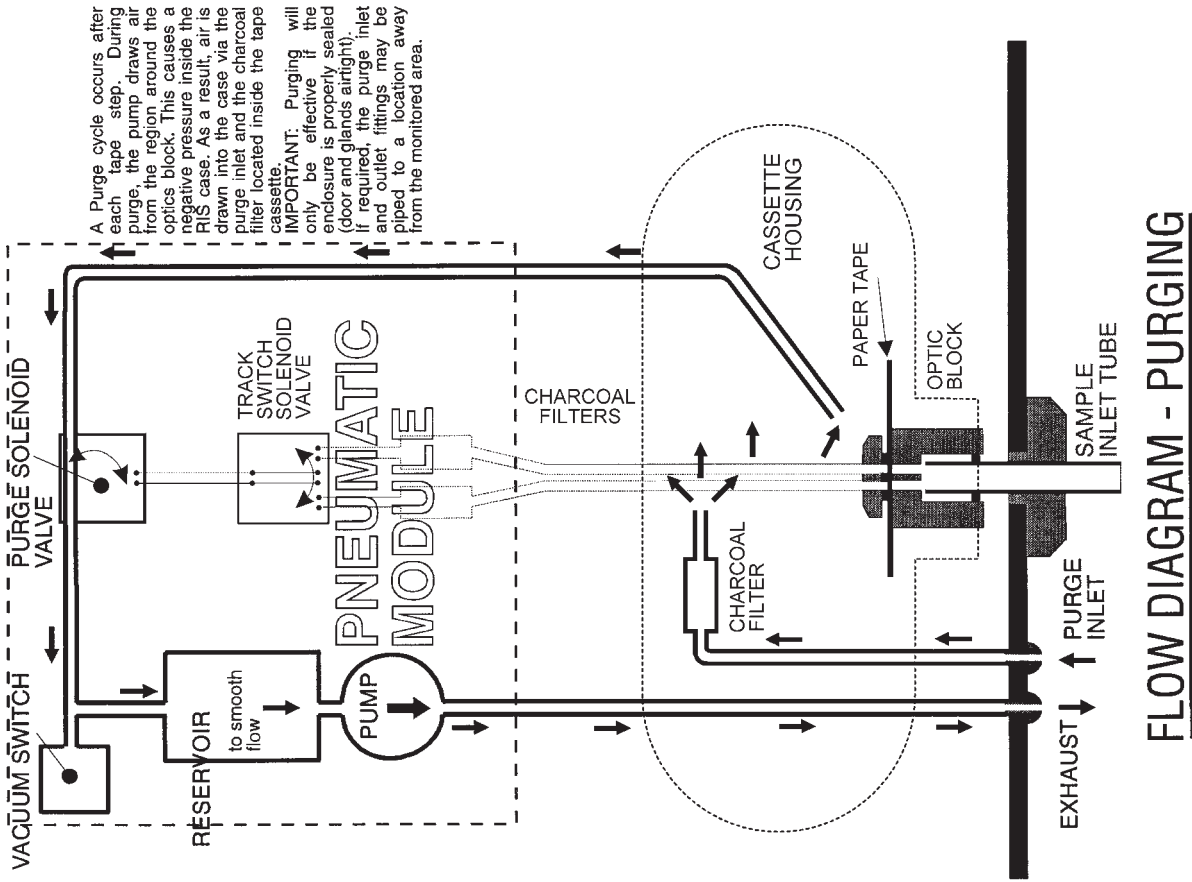

Figure 2-8
3.1.1 AUTOMATIC PURGE CYCLE. A purge sequence occurs after every tape step. The pump runs at a higher Flow Rate for 10 seconds; air inside the tape cassette, and the enclosure, is exchanged for filtered air. The incoming air is filtered as it passes through a 'scrubber' filter in the cassette. This is shown in the diagram in Figure 2-8.